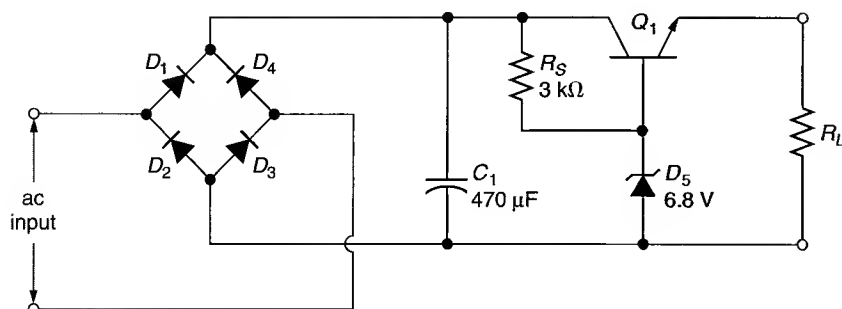

FIGURE 21.25
9. Determine the approximate value of V_L for the circuit shown in Figure 21.25.